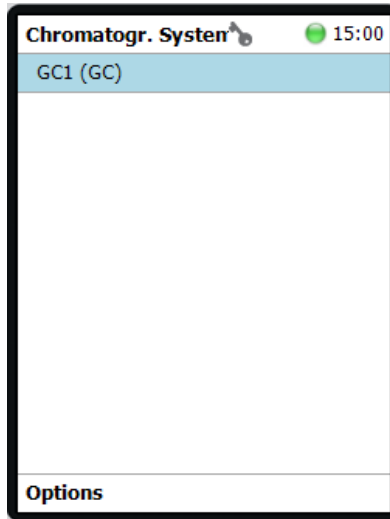

Figure 83 Chromatogr. Systems Menu
Once the new signal (SoftIn) is created, it has to be assigned to the appropriate Chromatograph System for the Autosampler to recognize the SoftIn software. On the Home Screen, press “A” (Options) to select “Setup” and “PALmodules”. In the “PALmodules” menu, select “Chromatogr. Systems” and “GC1 (GC)” (Figure 83).